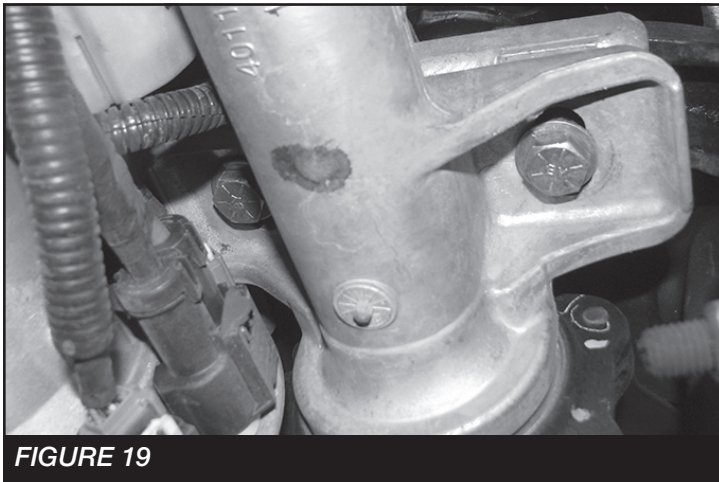

FIGURE 19
19. Using the passenger side differential mount, two 1/2"-13 x 4" bolts, nuts and washers, mount the passenger side of the differential. **NOTE: Run the bolts from the bottom up.** Torque the 1/2" bolts to 90 ft-lbs and the 12mm bolts to 65 ft-lbs. **SEE FIGURE 19**